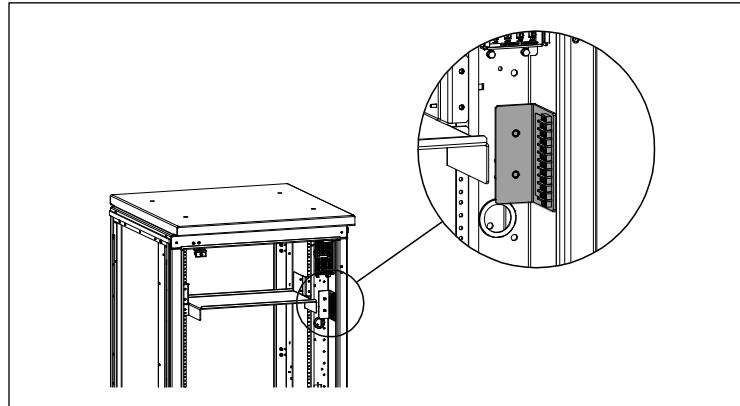

Figure 9 Install Alarm Block
2. Install the alarm terminal block onto the rack rail using the studs on the terminal block bracket (Figure 9, shaded in gray). Secure the bracket from behind the rack rail using the 1/4-20 Keps nuts provided with the kit.